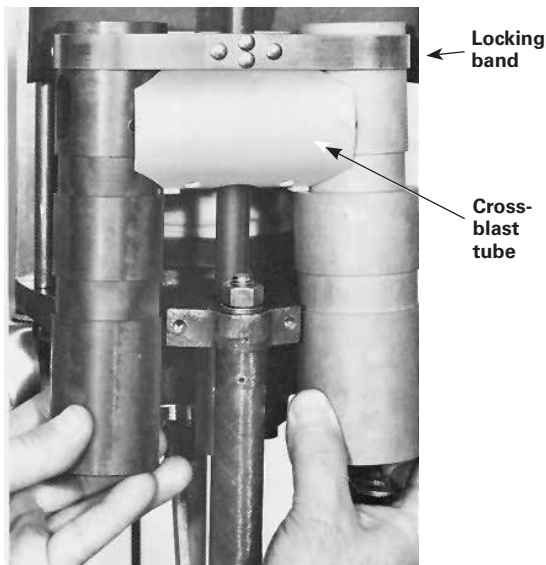

Figure 13. Separating contact tubes
4. Grasp both contact tubes near the free ends and pull apart enough to cause the locking band (Figure 13) to be released. A fiber pin may drop free from each tube when the cross-blast tube is separated from the contact tubes. Lift off the locking band and cross-blast tube.